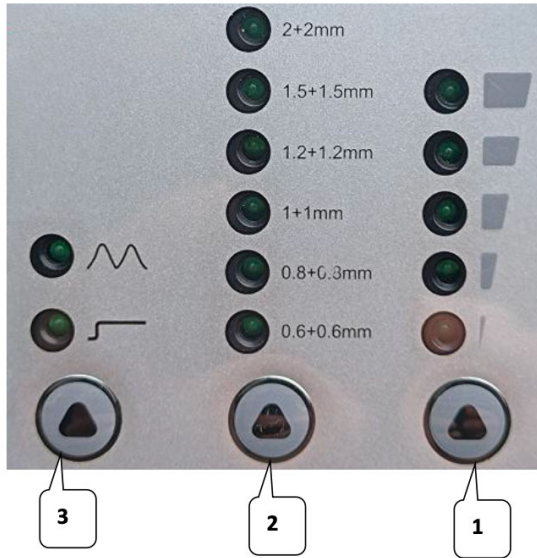

FIG. 2 Control Panel
- Select the **thickness of the sheet to be spot welded** using the key (2-FIG. 2) on the spot welding machine control panel.
- Select the **type of spot welding (continuous or pulsed)** using the key (3-FIG. 2).
- When necessary it is possible to correct the default **spot welding time** upwards or downwards using key (1- FIG. 2).